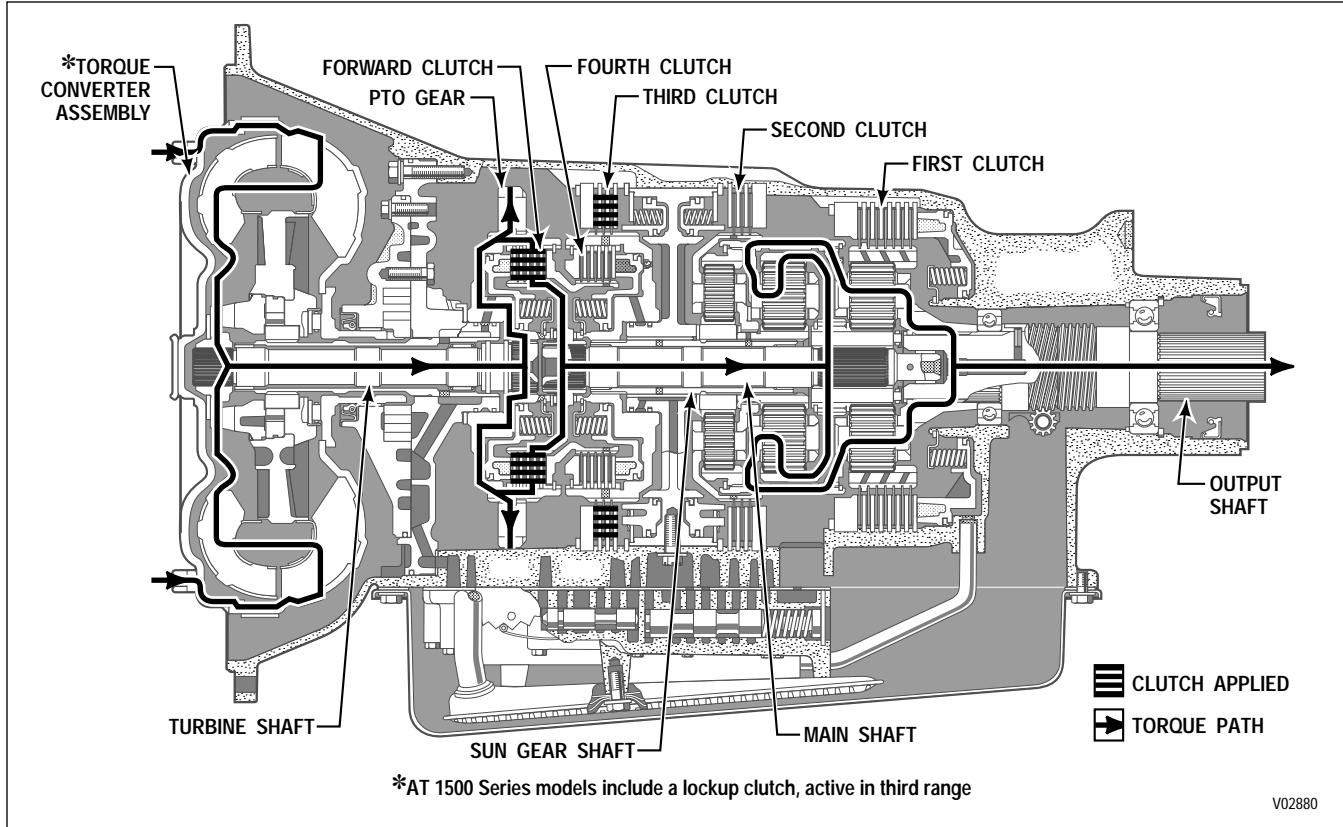

Figure 2-4. Third Range Power Flow
**e. Third-Range Operation (Figure 2-4).** The forward and the third clutches are applied. The third clutch application anchors the sun gear shaft against rotation, which, in turn, prevents the center sun gear (splined to rear of shaft) from rotating. The forward clutch application locks the turbine shaft and main shaft together, to rotate as a unit. The rear sun gear is splined to both the main shaft and the center ring gear and rotates at turbine speed. With the center sun gear stationary and the center ring gear rotating, the ring gear drives the center planetary carrier pinions. This carrier (and also the rear planetary carrier) is splined to the planetary connecting drum and rotates with it as a unit. The rear carrier is splined to the transmission output shaft which produces an output ratio of 1.41:1.